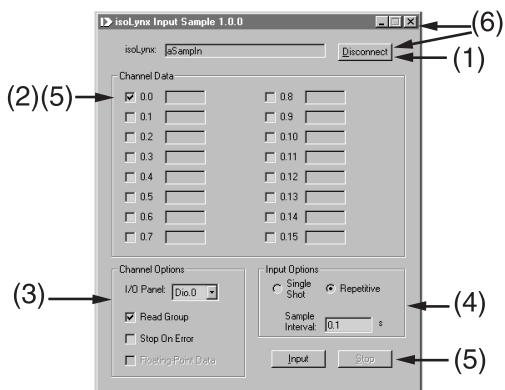

Figure 2.3
Next locate and run the Input sample program Input.exe. Input will display a dialog box similar to Figure 2.3. Figure 2.3 shows the Input Sample dialog box as it appears after execution, so some information and labels may have changed from the initial states.
(1) The button at the top right corner is labeled **Connect** or **Disconnect**. For information on the other options in this section, see the isoLynx™ Software User Manual. Clicking on **Connect** displays an isoLynx™ Connect dialog box. Clicking on **Connect** within that box triggers the Input program to make a serial connection to the isoLynx Digital I/O Backpanel. For information on the other options in the isoLynx™ Connect dialog box, see the isoLynx™ Software User Manual. After a short pause, the Connect dialog box disappears and the **Connect** button in the Input dialog box shows **Disconnect**.
(2) At this time observe in the Channel Data section the channel you have configured has a check mark. All others are blank.
(3) Note in the Channel Options section, the I/O Panel box as in Configure contains the designation: Dio.0. There are four selection boxes, two have check marks and two are de-activated. The recommended configuration is: Leave Read Group checked and uncheck Stop On Error. Floating-Point Data and Average Data is de-activated for digital panels. For the meanings and implications of the other choices, see the isoLynx™ Software User Manual.
(4) In the Input Options section, there are three choices: Single Shot, Repetitive, and Sample Interval. For a dynamic display, choose Repetitive. Sample Interval can range from 0.05 to 65.50 seconds.
(5) Clicking on the **Input** button will start data acquisition. Observe either the signal you have connected or a constant 1 or 0 next to the configured channel. The example in Figure 2.3 shows data for panel 0, channel 0. Click on the **Stop** button to stop data acquisition.
(6) Click on **Disconnect**, then **X** to end this demo.